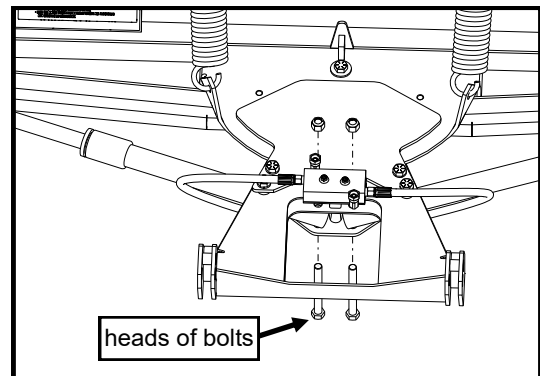

Fig. 5.2—Cylinder Fixed End
5.2 See fig. 5.2. From below the A-frame, insert 1/2-13 x 4 1/2" long bolts through the lower cylinder brackets of the A-frame, the stationary ends of the angle cylinders, and the upper plate of the plow A-Frame. Place the fixed end of each angle cylinder into its respective bracket under the plow A-Frame. Orient the crossover relief valve block assembly as shown. Place the block assembly on top of the plow A-Frame and over the 1/2" bolts. Fasten and tighten using 1/2-13 lock nuts.